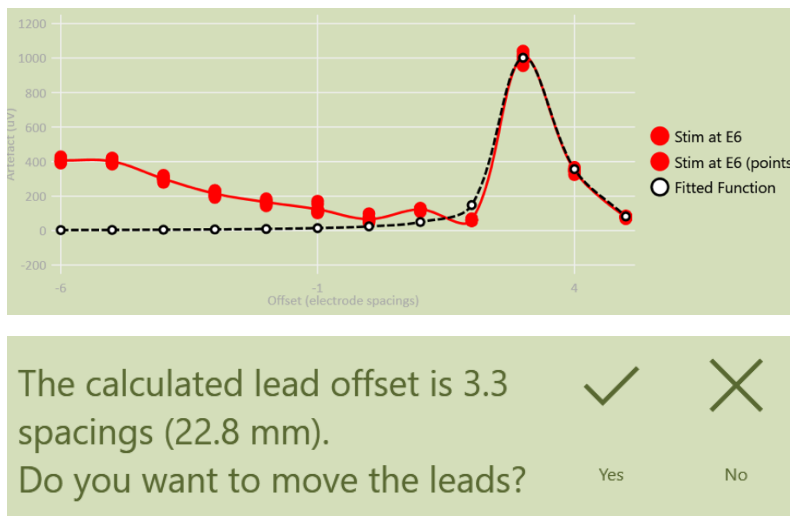

Figure 7.13 Lead offset measurement plot and lead offset distance display. The peak of the plot indicates the lead offset distance (electrode spacings).
Note: You may stop the lead offset test at anytime by touching the *Cancel* button. The results for stimulation locations with completed measurements will be plotted (see Figure 7.13), but the lead offset result will be invalid.
4. After completion, the results of all lead offset measurements will be plotted (Figure 7.13) and the lead offset distance displayed.